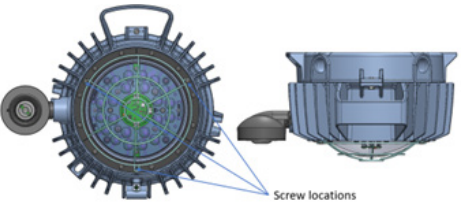

FIGURE 3A – PA3001
- Line up the 3-wire guard mounting loops where the three screw locations are visible on lens bezel as shown in Figure 3a or 3b